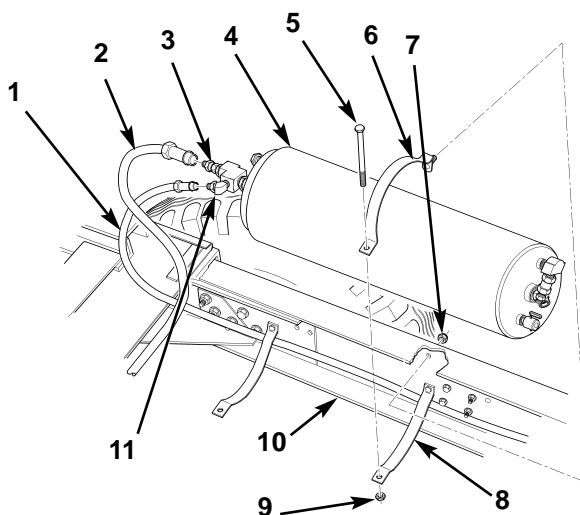

Figure 5. Installing Primary Reservoir.
4. Install fittings on front of primary reservoir (figure 5, item 4). Refer to TM 9-2320-283-20.
5. Connect tubes (figure 5, items 1 and 2) to elbow (figure 5, item 11) and adapter (figure 5, item 3) on rear of primary reservoir (figure 5, item 4).
6. Position primary reservoir (figure 5, item 4) on lower clamps (figure 5, item 8), and install upper clamps (figure 5, item 6) on left frame rail (figure 5, item 10) with two nuts (figure 5, item 7).
7. Secure primary reservoir (figure 5, item 4) by installing two screws (figure 5, item 5) and nuts (figure 5, item 9) on upper and lower clamps (figure 5, items 6 and 8).